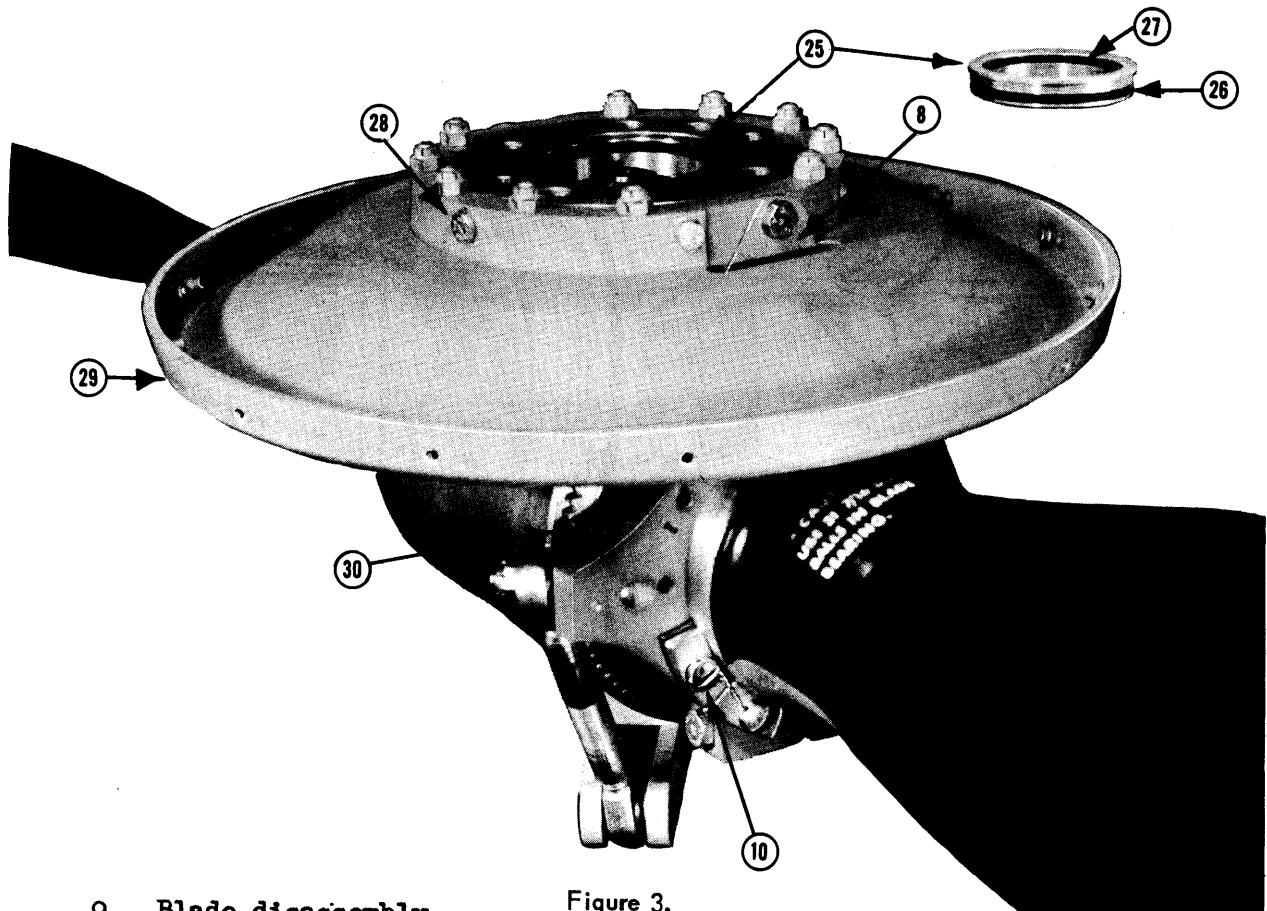

Figure 3.
5. Remove hub pilot ring (25), O-Ring (26), and O-Ring (27) from rear of hub (See Figure 3).
6. Remove 2 screws, washers, retention nut locks (8).
7. Remove 6 bolts and washers (28) from the periphery of engine mounting flange on the hub, and remove spinner rear bulkhead assy. (29).